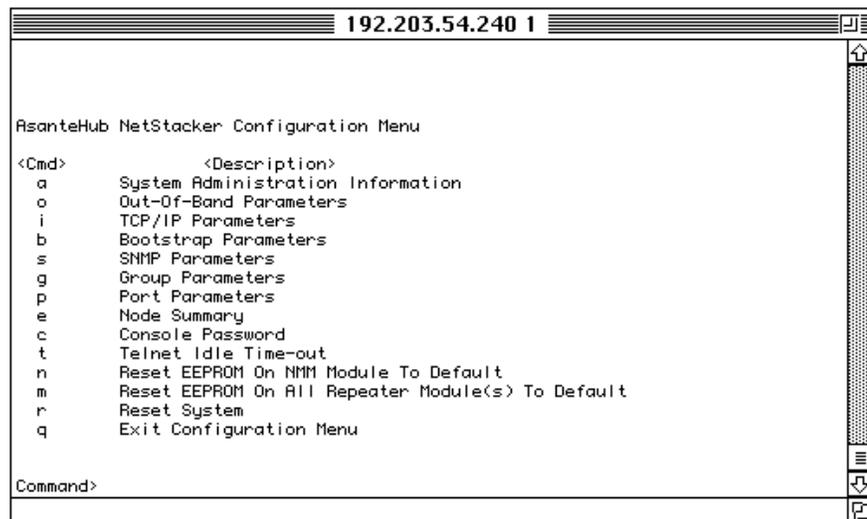

Figure 23 Configuration Menu example
- 2** Type the default password **Asante** (the password is case-sensitive) and press return. The Configuration menu appears. Figure 23 shows an example of the Configuration menu for a NetStacker hub.
- 2** Type the current password (the default password is Asante) and press return. The Configuration menu appears. Figure 23 shows an example of the Configuration menu for a NetStacker hub.